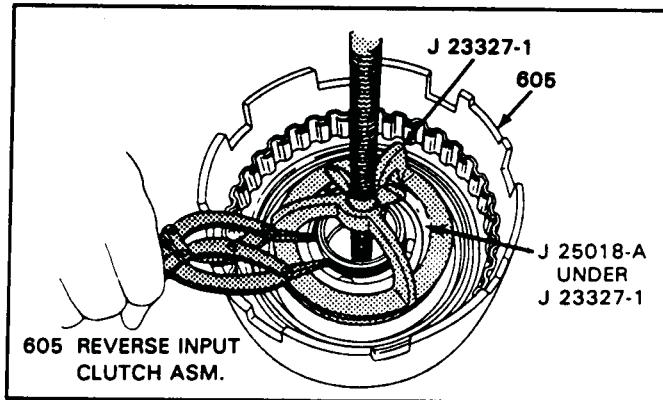

Figure 147
3. Install spring compressor J-23327-1 as shown in Figure 147, compress the reverse input return spring assembly.
4. Remove the return spring snap ring with snap ring pliers, as shown in Figure 147.
9. Install spring compressor J-23327-1 as shown in Figure 147, compress the reverse input return spring assembly.
10. Install the return spring snap ring with snap ring pliers, as shown in Figure 147.